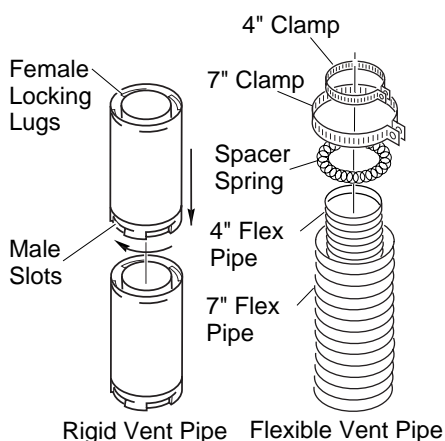

Figure 11 - Vent Pipe Connections
Twist-lock Procedure: The female ends of the pipes and fittings have four locking lugs (indentations). These lugs will slide straight into matching slots on the male ends of adjacent pipes and fittings. (All connections must be sealed with high temperature silicone sealant as specified in the second warning on page 7.) Push the pipe sections together and twist one section clockwise approximately one-quarter turn until the sections are fully locked. See Figure 11, page 9. **Note:** Horizontal runs of vent must be supported every three feet. Use wall straps for this purpose.
Flexible vent pipe must be installed with spacer springs every 12". See Figure 11, page 9. All connections must be clamped tightly and sealed with high temperature silicone sealant as specified in the second warning on page 7.
2. Assemble the desired lengths of pipe and elbows necessary to reach from the fireplace flue up through the firestop. All connections must be sealed with high temperature silicone sealant as specified in the second warning on page 7. Be sure all pipe and elbow connections are fully twist-locked (see Figure 11, page 9).